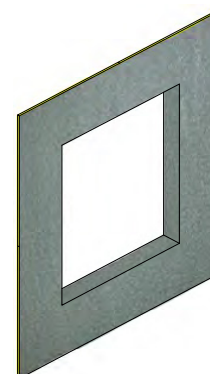

Figure 23
9. Fully saturate MasterSeal AWB 975 FIB and MasterSeal AWB 975 FIBs with MasterSeal AWB 660, MasterSeal AWB 665 or MasterSeal AWB 660 I. Typically this is done when applying MasterSeal AWB to the main body of the sheathing. Ensure that no coloration from the previous application of MasterSeal AWB 950 P is visible – it shall be entirely covered with MasterSeal AWB. (See Figure 23).